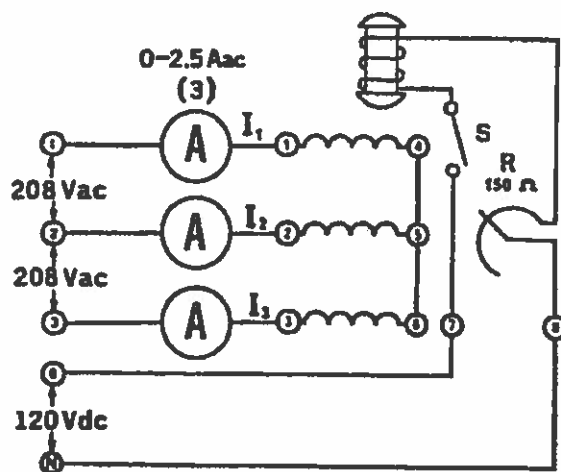

Figure 29-1.
1. Because of its constant running speed, the synchronous motor will be used to mechanically drive the DC generator. Using your Power Supply, AC Ammeter and Three-Phase Synchronous Motor/Generator, connect the circuit shown in Figure 29-1.